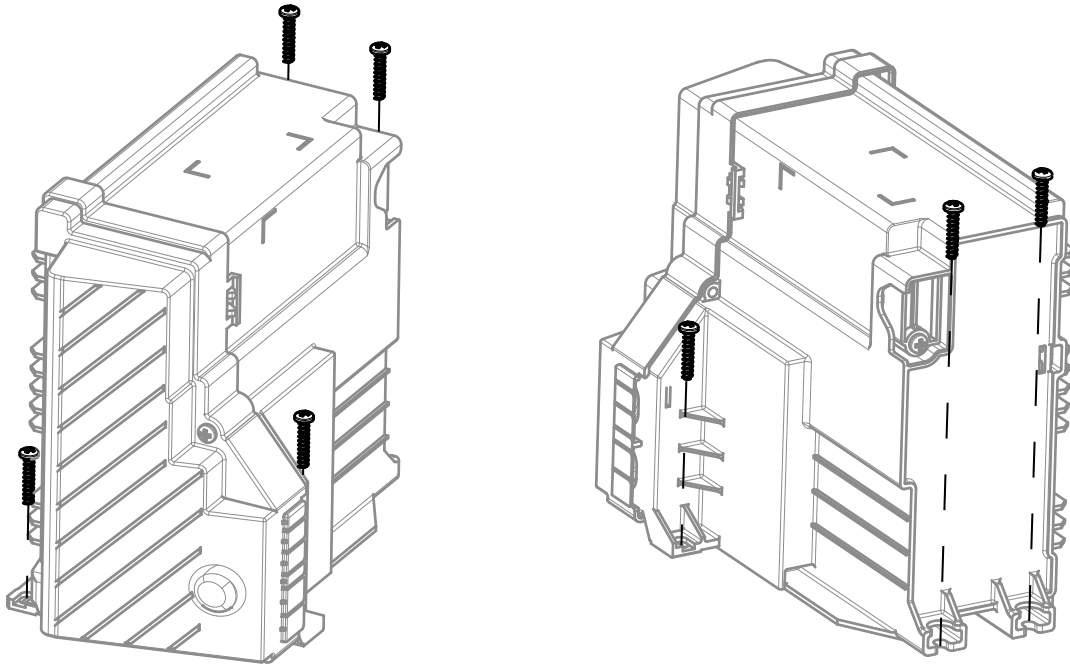

Figure 3.3: Inverter fixation
- The screws presented in Figure 3.3 are only for reference of screwing positions. To fix the inverter in the system the customer shall use a screw or washer with following specification: screw head or washer with minimum diameter of 10 mm; torque range from 1.5 to 2.0 Nm.